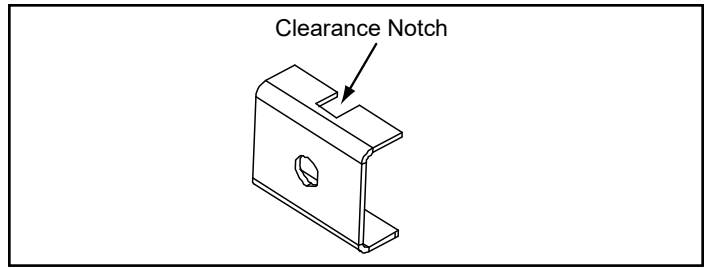

Figure 5.18
8. Each clip has a clearance notch to allow room for the cast on the insert. Place the clip so the notch is facing the outer edges of the surrounds (Figure 5.18).